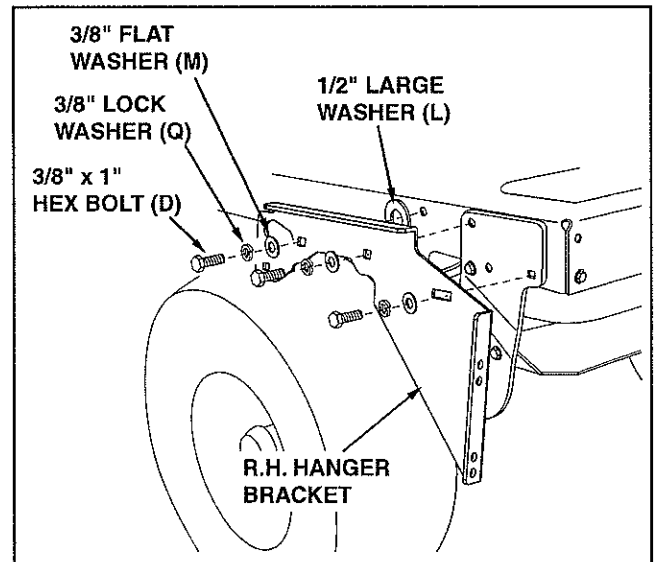

FIGURE 6
9. Attach the R.H. hanger bracket to the two front empty holes on the right side of the tractor frame using two new 3/8" x 1" hex bolts (D), 3/8" lock washers (Q), and 3/8" flat washers (M) as shown. For the rear hole, use a 3/8" x 1" hex bolt (D), 3/8" lock washer (Q) and 3/8" flat washer (M) with a large 1/2" washer (L) placed between the hanger bracket and the tractor frame. **Tighten.** See figure 6.